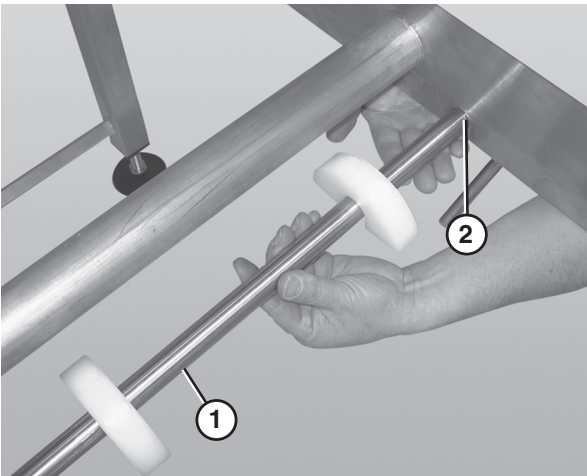

Figure 51
1. Remove the belt returns by pushing up on the return shaft (**Figure 51, item 1**) and sliding it through the large hole (**Figure 51, item 2**) in the frame.
2. Lower the opposite end of the return shaft (**Figure 51, item 1**) and slide it out of the frame.